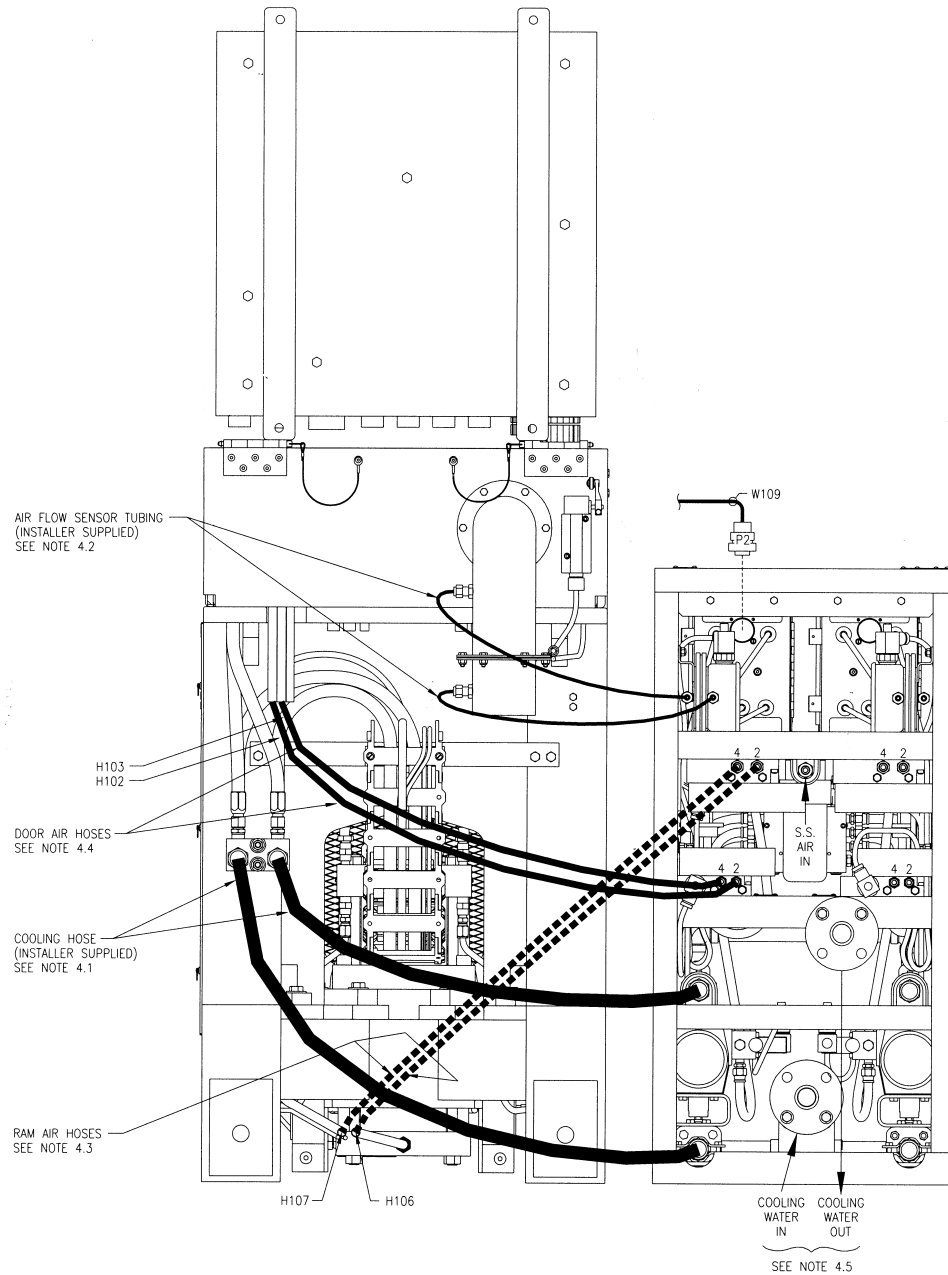

Figure 1. CMU to AU interconnections.
Note: The following steps assume that the “A” side of the auxiliary unit (AU) is being used for testing. If the “B” side is used, substitute “B” valve designations (XXB) for the “A” valve designations (XXA) used below. See Figure 1 for plumbing described below.
- l. Interconnect between the CMU and the AU with 3/4-inch nominal ID hose with female –12 size SAE 37° flare swivel ends. Interconnect as shown in figure 1.